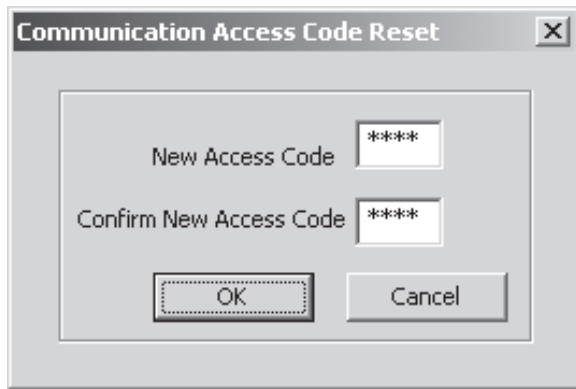

Figure 4-1 Communication Access Code Reset Dialog Screen
1. From the ISScom Main Screen menu select **Tools/System Access Code/Comm Access**. ISScom will display the Communication Access Code Reset dialog screen (Figure 4-1).